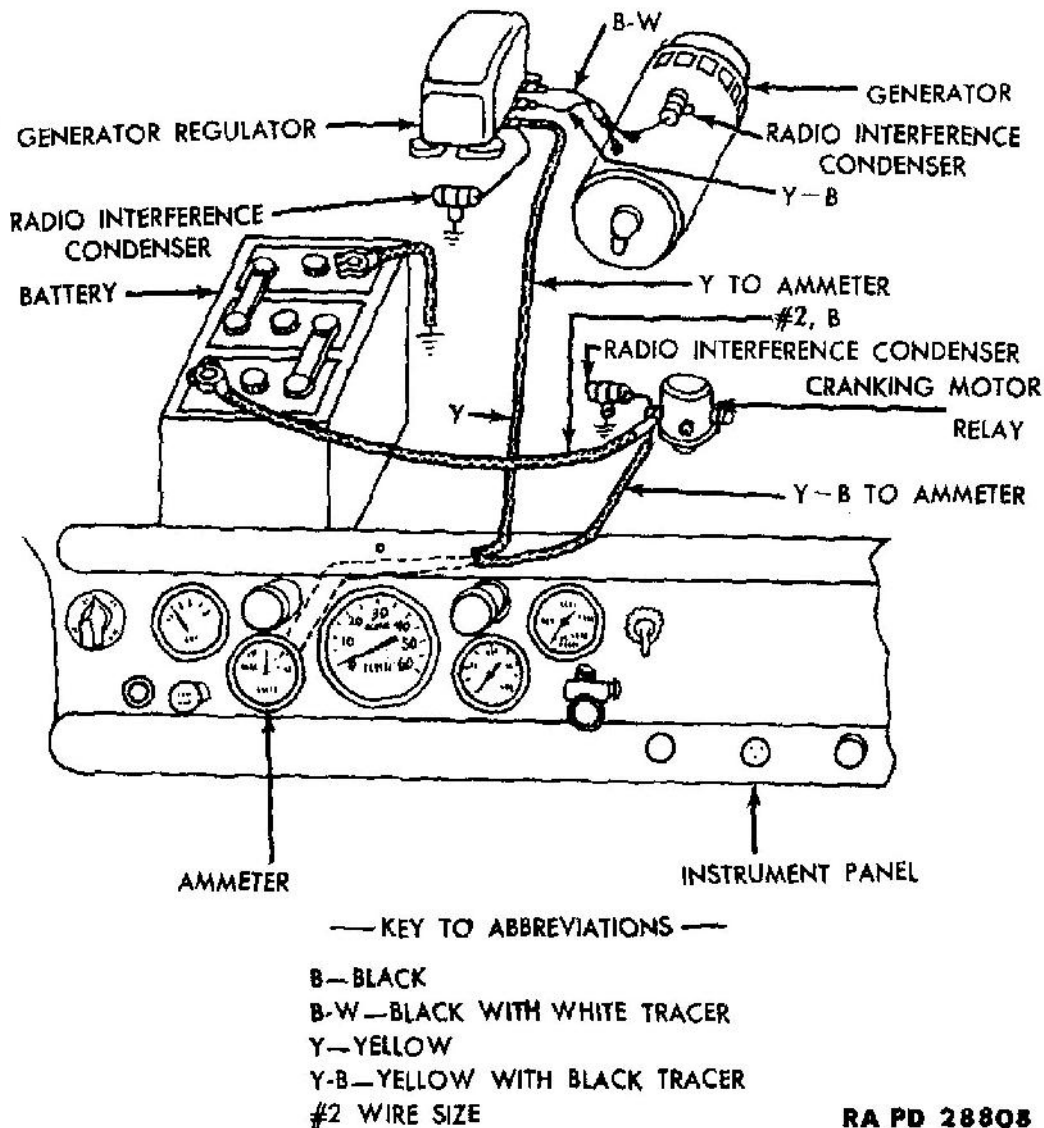

Figure 38 - Generating Circuit
a. The vehicle uses a 6-volt electrical system. The electrical system consists of the generating circuit (fig. 38), the cranking motor circuit (fig. 40), the ignition circuit (fig. 18), the fuel gage circuit (fig. 34), and the lights and horn circuits (fig. 41). A drawing of the complete electrical system (fig. 36) shows the location of the various units and wiring as viewed from the front of the vehicle. The drawings for the various individual circuits indicate the use, size and color of the wires.
b. **Replacement.** Disconnect the battery ground cable. Disconnect all wires from the generator regulator, noting wire colors (fig. 38). Remove the four bolts which secure the regulator to the bracket in the engine compartment and remove the regulator. To install the regulator, reverse the sequence of the steps of the removal procedure.